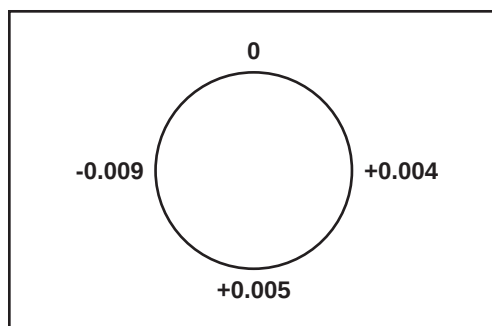

Figure 7-27: Total Indicator Reading (TIR)
A total indicator reading (TIR) is the difference between two readings on opposite sides of the shaft. In the example illustrated (see "Figure 7-27: Total Indicator Reading (TIR)"), the horizontal TIR is (-0.009) and (+0.004) which is a difference of 0.013 in. (0.330 mm) or 13 thousandths of an inch TIR. Vertical TIR is (0) and (+0.005) which is a difference of 0.005 in. (0.127 mm) or 5 thousandths of an inch TIR.